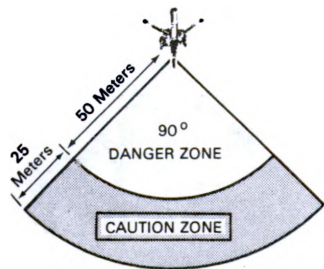

Figure 6.
- a. Clear the backblast area (fig. 6).